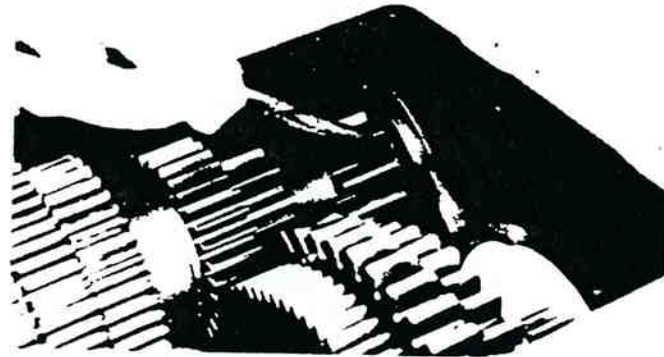

Figure 13-41. Driving Out Countershaft Bearings.
2. Use a soft punch and maul from inside case to drive the rear countershaft bearings to the rear and from case bores (figure 13-41).